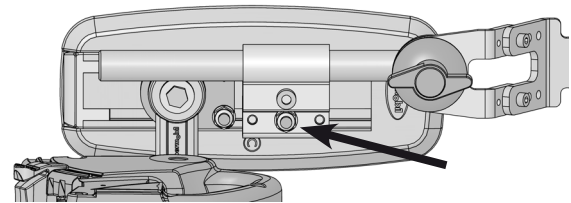

Fig. 14. The control panel holder and its bracket are mounted with a screw, washer and nut.
2. Remove the control panel holder and its bracket, it's mounted with a nut. See fig. 14.